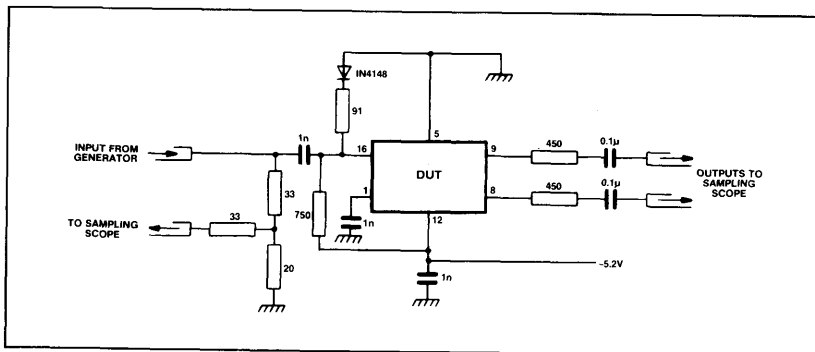

Fig.6 Test circuit
1. The clock and control inputs are ECL III compatible. There is an internal pulldown resistor to V_{EE} of 4.3k on each input and therefore any unused input can be left open circuit when not in use but should be bypassed for RF signals with a 1nF capacitor to ensure maximum noise immunity. If it is desirable to capacitively couple the signal source to the clock input then an external bias is required as shown in Fig. 6. The external bias voltage should be -1.3V at 25°C.